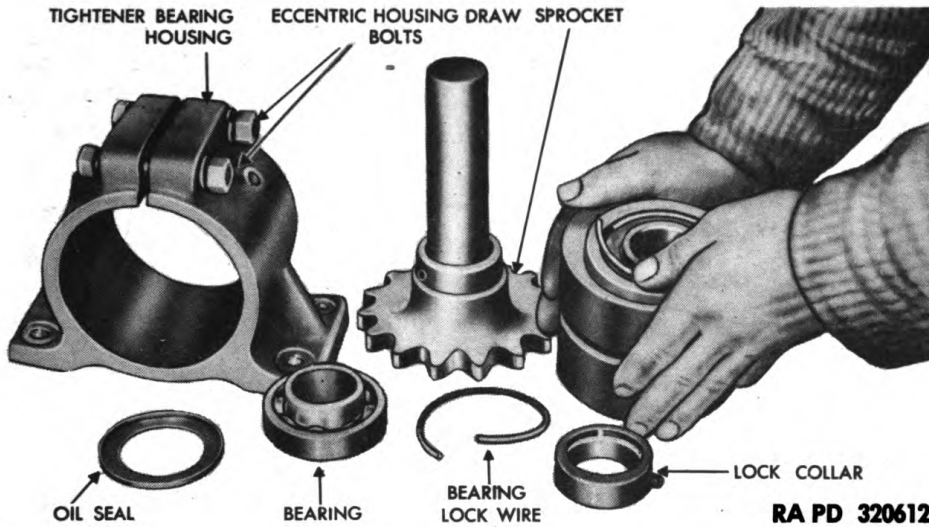

Figure 51 – Installing Bearing Lock Wire
c. Assemble. Install the shaft key, and press the sprocket on the shaft until the shaft end and the face of the sprocket are flush. Install the sprocket set screw. Set the bearings in the chain tightener sleeve and tap in until they shoulder against their seats. Install the oil seals with the flange in, and install the bearing lock wires (fig. 51). Set one chain tightener lock collar on the sprocket shaft with the counterbore toward the bearing. Slide the shaft through the bearings, and set the outer lock collar on the shaft with the counterbore toward the bearing inner race (fig. 51). Turn the lock collars in either direction until they lock on the bearing inner race, and tighten the lock